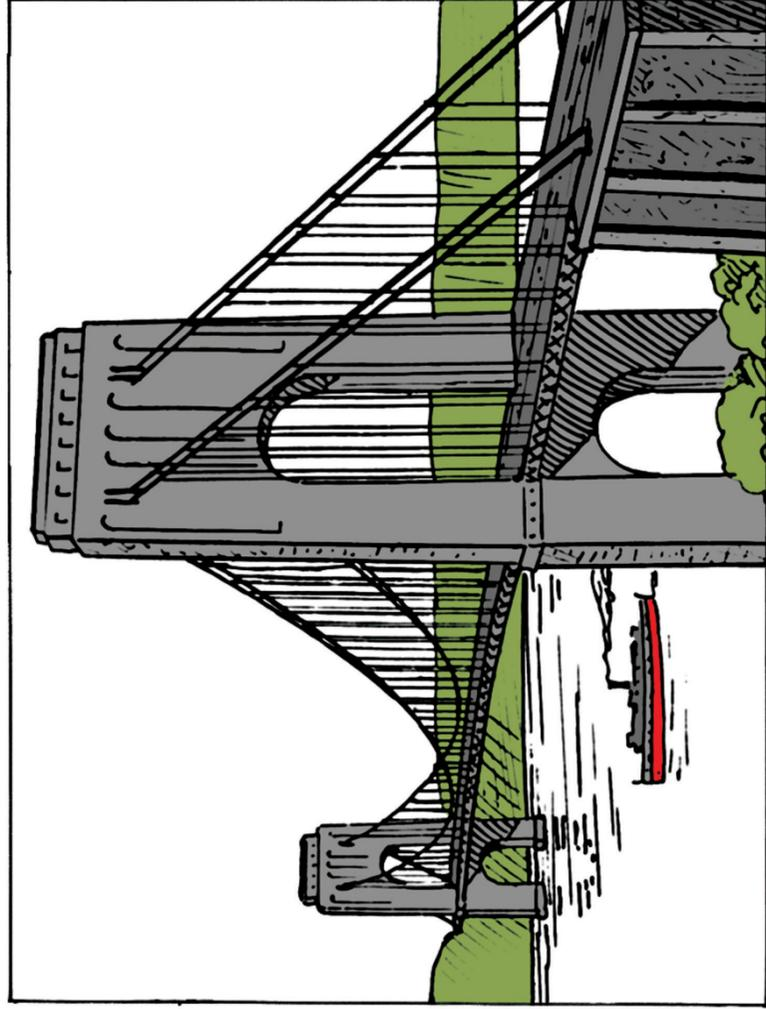

Figure 26
7. Figures 26 and 27 show a suspension bridge and an arch bridge. LB page 28